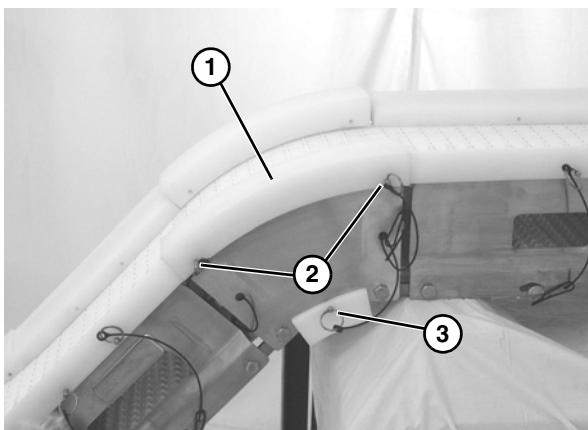

**Figure 9**
1. Slide belt (**Figure 9, item 1**) over knuckles on top of the wear strips.